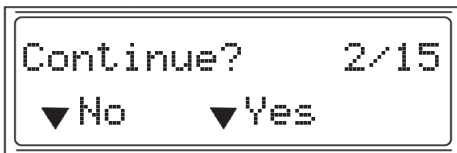

Fig. 14
- If you pause or stop the loading operation by pushing the **Power** button, after any quantity of ammo has been loaded already, the Continue? screen will be displayed, indicating the number of rounds loaded/total quantity (*Fig. 14, example indicating 2/15 loaded*). If no ammo has been loaded yet, the Continue loading screen will be displayed (*Fig. 15*).